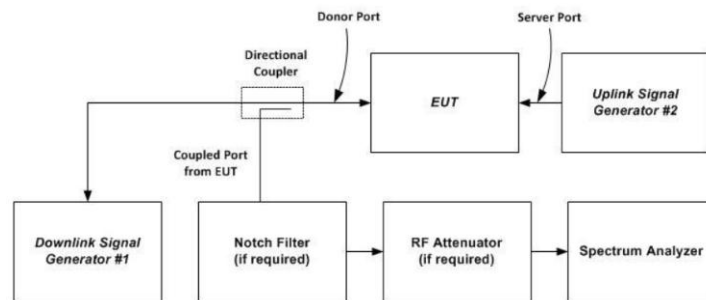

Figure 5—Variable gain instrumentation test setup
- a) Connect the EUT to the test equipment as shown in Figure 5 with the uplink output (donor) port connected to signal generator #1. Affirm that the coupled path of the RF coupler is connected to the spectrum analyzer.
- k) Measure the maximum channel power and compute maximum gain when varying the signal generator #1 output to a level from -90 dBm to -20 dBm , as measured at the input port (i.e., downlink signal level at the booster donor port node of Figure 5), in 1 dB steps inside the RSSI-dependent region, and 10 dB steps outside the RSSI-dependent region. Report the six values closest to the limit, including at least two points from within the RSSI-dependent region of operation. See gain limit in charts in Appendix D for uplink gain requirements. Additionally, document that the EUT provides equivalent uplink and downlink gain, and when operating in shutoff mode that the uplink and downlink gain is within the transmit power off mode gain limits.
Variable uplink gain timing is to be measured as follows, using the test setup shown in Figure 5.